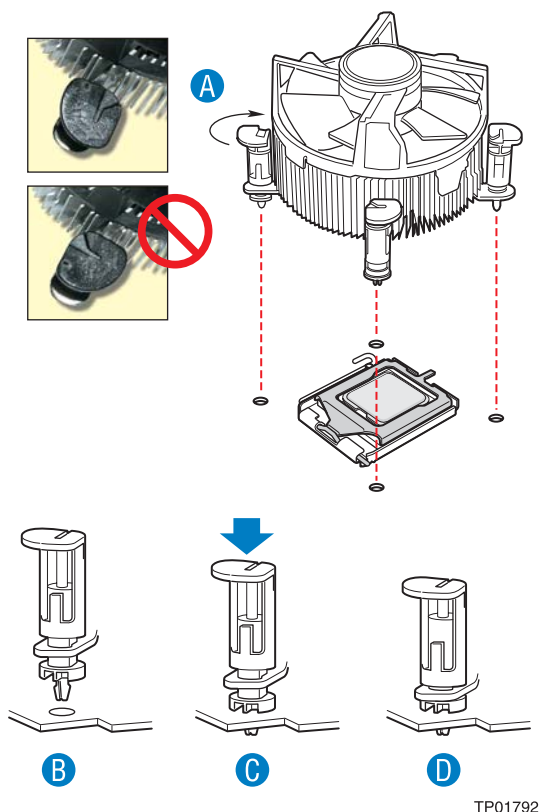

Figure 11. Installing the Active Heat Sink
1. Make sure the screwdriver slot at the top of each fastener is rotated clockwise so the screwdriver slot points to the center of the heat sink as shown (see letter “A” in Figure 11).
2. Align the heat sink with the mounting holes in the server board and lower the assembly to the board (see letter “B” in Figure 11). The snaps go through the holes in the server board.
3. Press downward on top of each cap (see letter “C” in Figure 11).
4. Ensure that the fasteners have snapped into final position (see letter “D” in Figure 11).